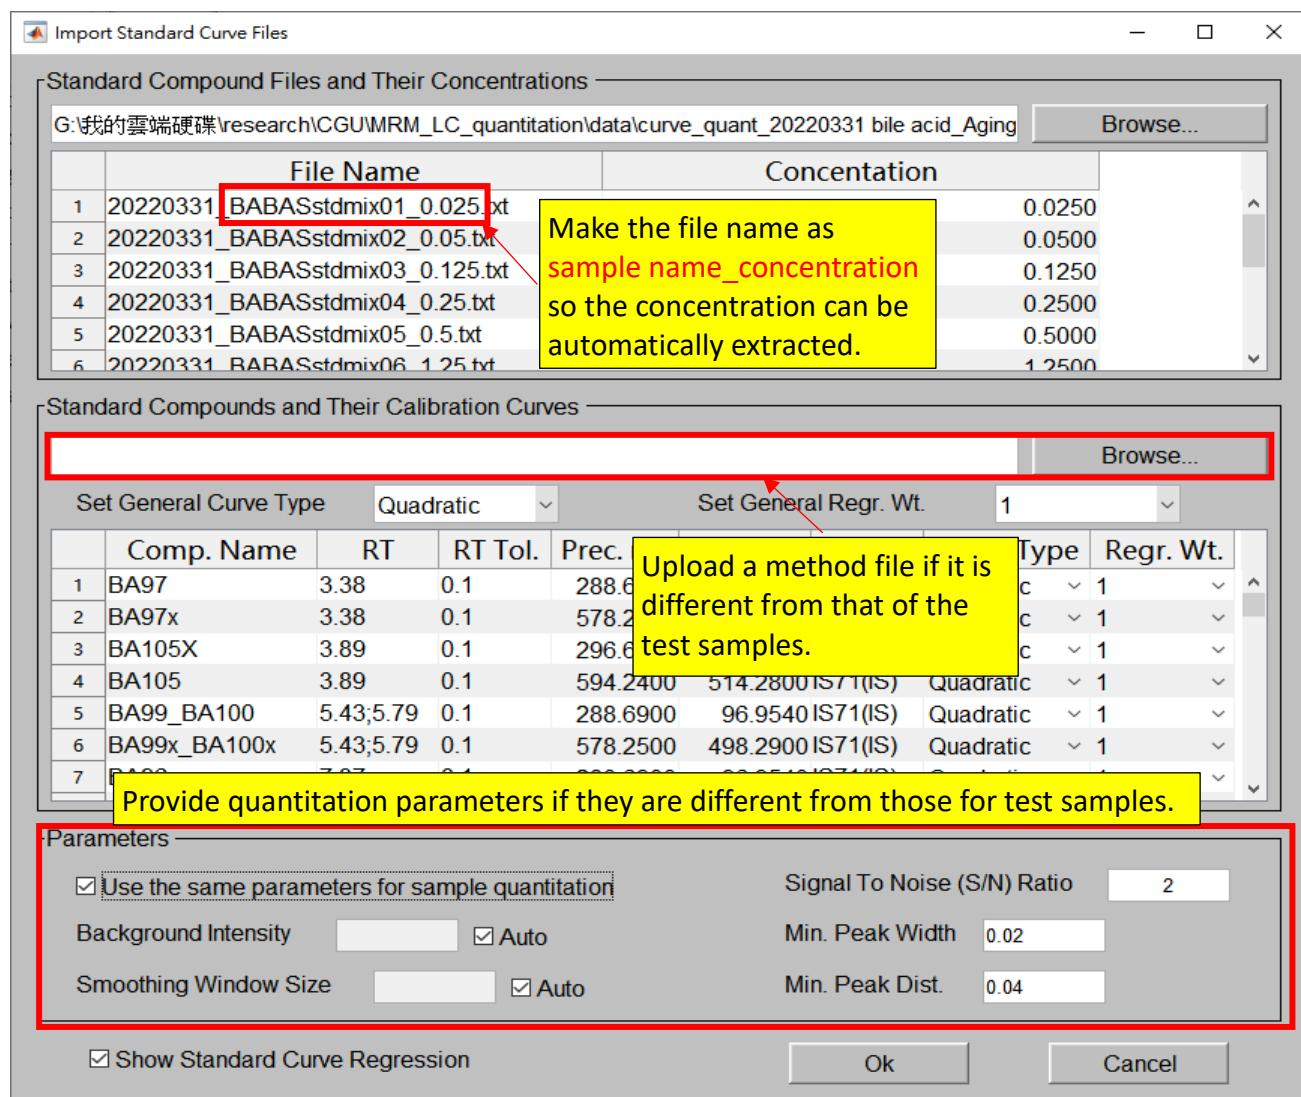
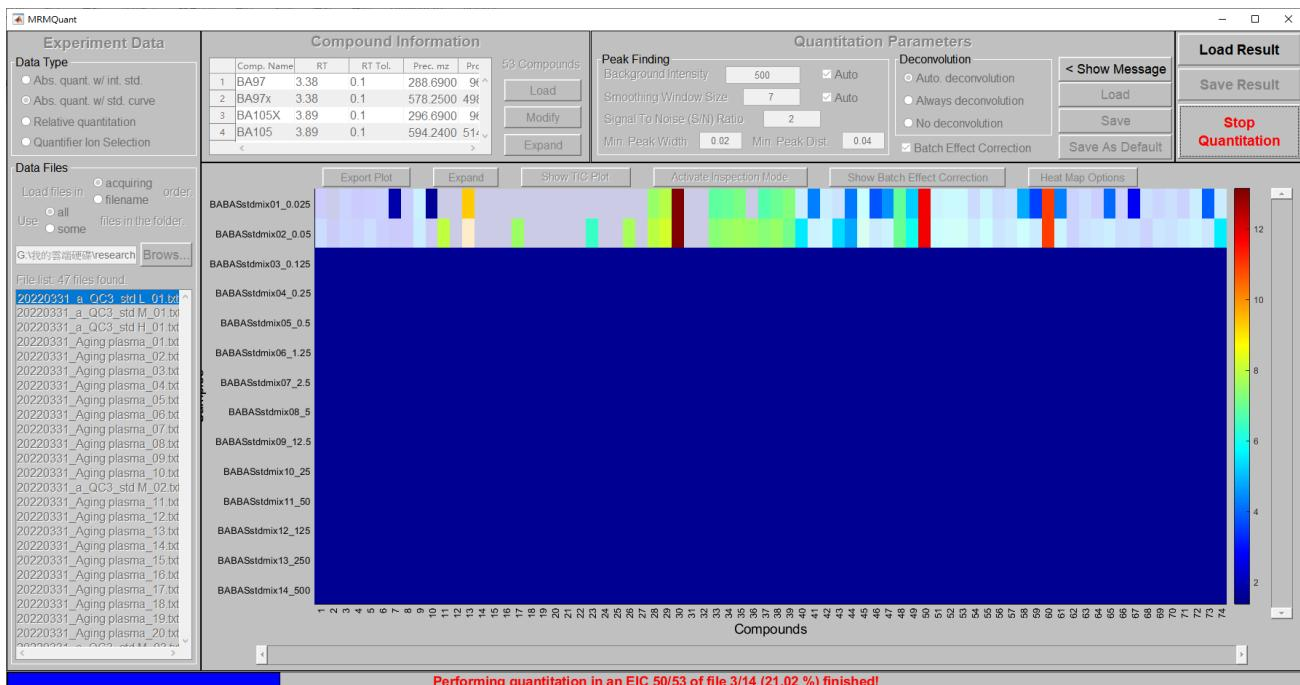
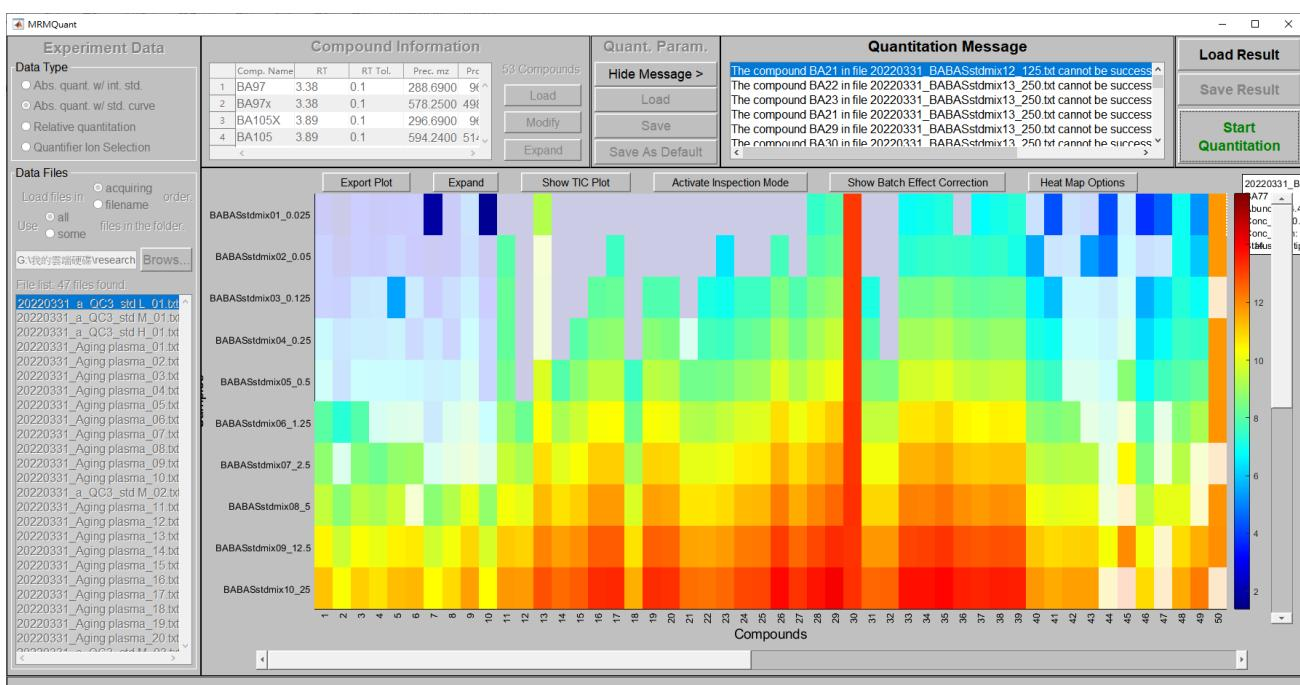
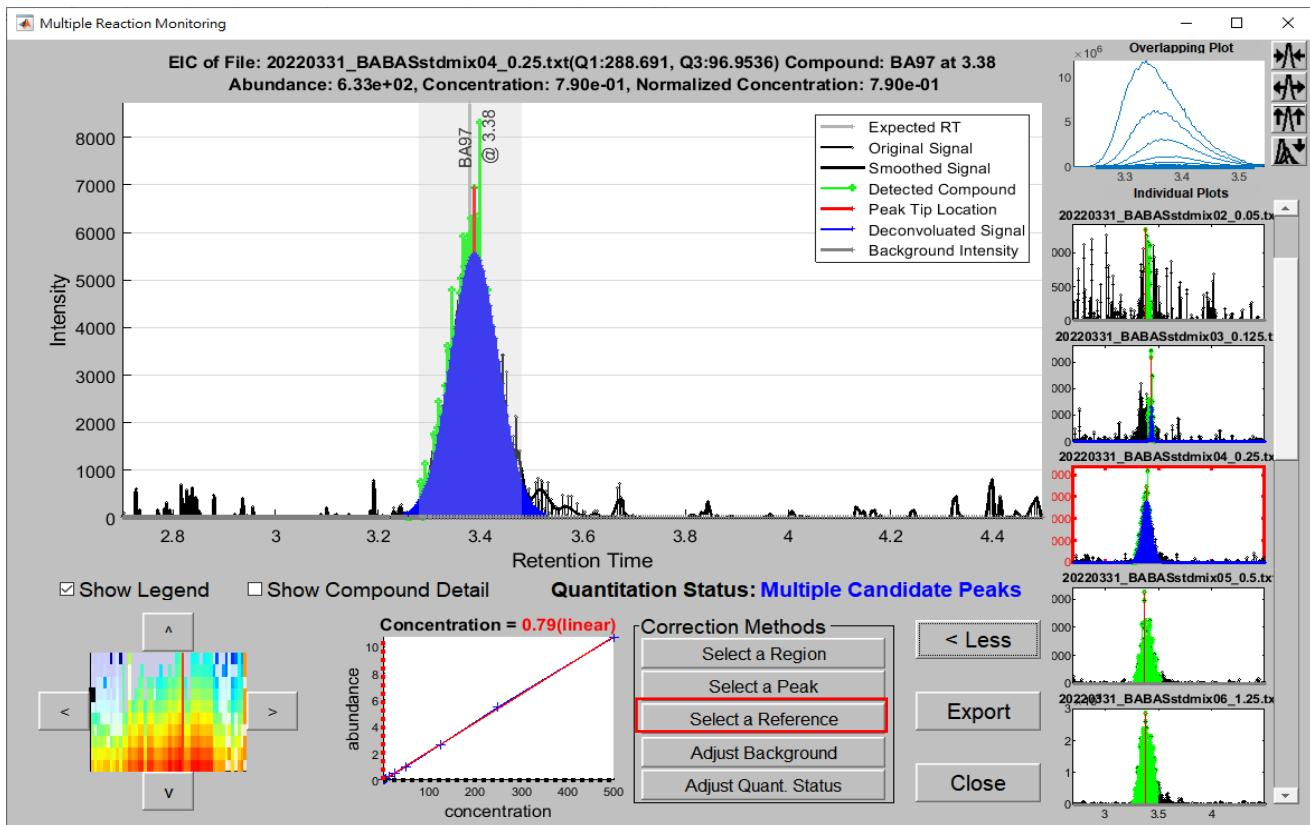

Figure 39. The “Import Standard Curve Files” window for standard curve generation.
Figure 41. The quantitation is performed on the samples for standard curve generation.
Figure 42. The quantitation result in heat map form of the data for standard curve generation.
Figure 48. The Multiple Reaction Monitoring window for peak area correction.
Figure 39. In this window, the user needs to provide (1) the sample files for the standard curve generation, (2) the method file for the targeted compounds in the sample files, and (3) the quantitation parameters. Except for the first item, the latter two information can use the same ones as those for the testing sample files in steps 4 and 5. The files are suggested to be named as sample name_concentration so that MRMQuant can automatically extract the concentrations from the file names, as shown in Figure 39. Users can change curve types (quadratic or linear) and regression weights (1 , $1/x$, $1/x^2$) for all compounds using the dropdown menus at the top of the “Standard Compounds and their Calibration Curve” section. These entities can also be changed for individual compound using the dropdown menus at the end of each row, as shown in Figure 40. Once all the information for the standard curve generation is provided, the user can press the “Ok” button and the quantitation process of the samples for the standard curve generation will be commenced, as shown in Figure 41. The quantitation result in heat map form is shown in Figure 42. Note that the cells with the 20% transparent grey mask indicate those results that require further inspection and those with white color denote saturated peaks.
However, for samples with low concentration, their signal intensities in the ion chromatogram are usually low and hence susceptible to noise and subsequently lead to inaccurate peak detection and quantitation, as shown in Figure 47. When some of the peaks are not correctly quantitated, the user can click on the corresponding ion chromatogram and it will bring up the Multiple Reaction Monitoring window, as shown in Figure 17. For details about how to use the five correction methods to correct the quantitation, please refer to section 9. **Activate/deactivate inspection mode**. Here, we simply demonstrate how to use the “select a reference” method to fix the inconsistency problem of a compound across multiple samples. For example, we click on the fourth chromatogram on the right and it will bring up the Multiple Reaction Monitoring window, as shown in Figure 48.
In Figure 47, if the “Select a Reference” button is pressed, a window that allows the user to specify the reference sample will be brought up. Because there is only one batch in the standard curve samples, one sample is to be assigned as the reference, as shown in Figure 48. In this case, the sample with concentration 50 is selected as the reference since this sample has higher concentration and thus the compound herein is more likely to have higher peak signals. Although there are samples with higher concentrations (125, 250, 500), they consist of saturation peaks, as shown in Figure 41.